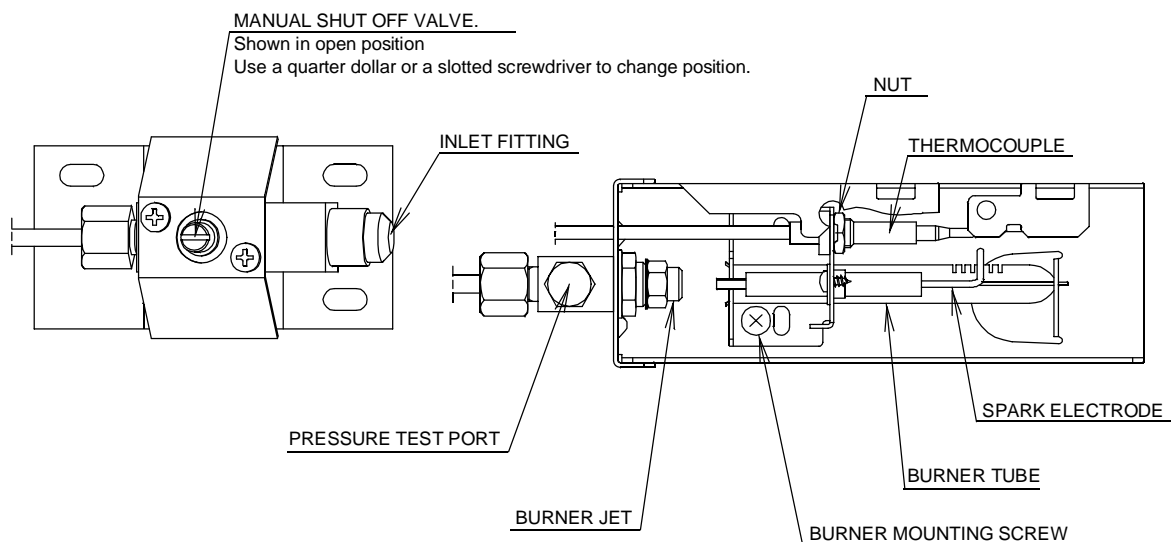

FIG. 12
column. The correct place to take the LP gas pressure is at the test port just ahead of the burner jet. (See FIG. 12).
6. Remove the burner mounting screw and remove the burner assembly. (See FIG. 12).
Set main regulator so pressure does not drop below 11 inches water column at pressure test port (see page 11, FIG. 12).